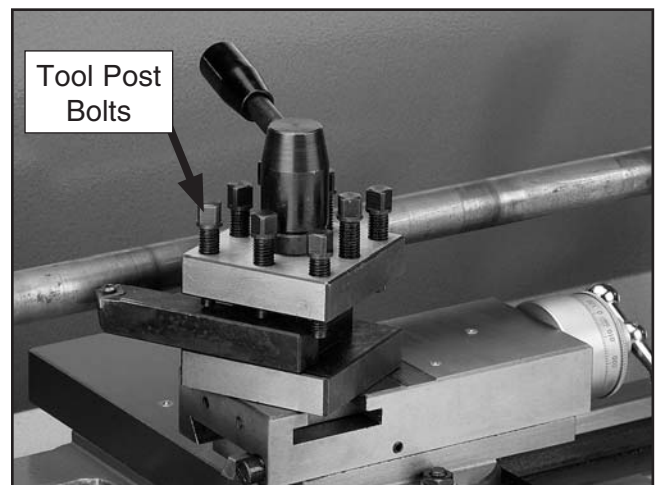

Figure 42. Tool post bolts.
3. Use a minimum of two tool post bolts to hold down the cutting tool and tighten firmly (see **Figure 42**).